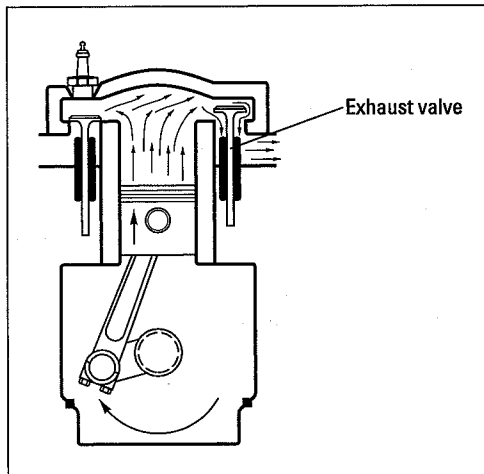

Figure 6-17:
- 4. Exhaust stroke:** (See Figure 6-17.) The piston moves *up* again, pushing the burned gases up with it. Then the exhaust valve opens and lets the burned gases out into the exhaust manifold. From there, the burned gasses travel through the exhaust system (which, on newer cars, includes anti-pollution devices), through the muffler, and out the tailpipe into the environment.